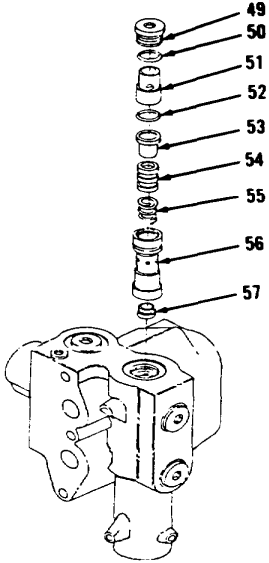

Figure 8-26.
- 18. Remove plug (49), preformed packing (50), spacer (51), preformed packing (52), spacer (53), valve (54), spring (55), body (56) and seat (57, Figure 8-26). Discard preformed packings (50 and 52).